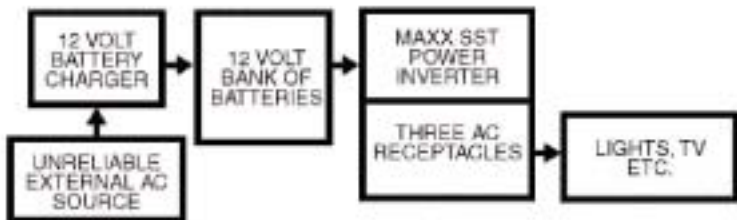

Figure 3 - Uninterruptible Power Supply
Inverters can be operated as uninterruptible power supplies that continuously provide AC even if outside AC is interrupted. This function continuously operates the inverter from a battery bank, simultaneously replacing the charge to the battery bank with an AC-powered 12 volt battery charger. Charging can also be by means of a solar charger system. (See FIGURE 3). The charger must be selected to operate continuously in order to fully replace the charge on the battery as the inverter operates. In this configuration, the battery "floats" on the DC from the charger, not really supplying power or being charged. When outside AC fails, the inverter continues to power the appliances for the life of the useful charge of the battery bank. When outside AC is restored, the batteries are charged as the inverter continues to operate. Battery charging must be sized to replace the average current supplied by the inverter plus a little more current. Another requirement is that the battery charging rate cannot exceed 10% of the Ampere Hour (AH) rating of the battery bank, otherwise the life of the batteries can be dramatically reduced through overcharging. Most modern battery chargers automatically adjust the charging rate based on the state of charge on the batteries they are charging. For this type of operation, use deep-cycle batteries and avoid charging at too fast a rate.